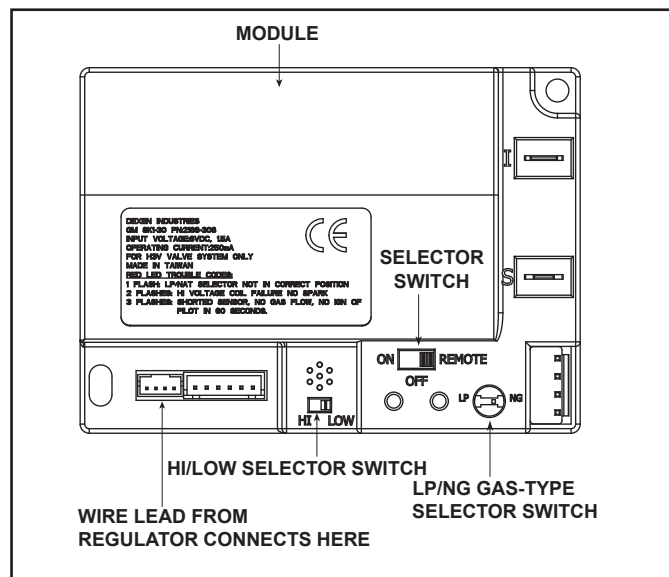

Figure 3.6 Control Module
1. The control module has an ON/OFF/REMOTE selector switch that must be set. See Figure 3.6.
2. If using a wired wall switch with the module in REMOTE mode, the flame output can be adjusted with the HI/LO selector switch on the module. See Figure 3.6. Note that the flame HI/LO selector switch will become inactive once an remote control (RC300AU) is programmed to the control module. Note that the control module will always ignite the fireplace on HI and remain so for the initial 10 seconds of operation. If the HI/LO is switched to the LO position, the flame output will automatically drop to the lowest setting after the flame has been established for 10 seconds. After this 10 second period, the flame can be adjusted from HI to LO with the switch.
- Locate the module selector switch. (See Figure 3.6).
- Wait five (5) minutes to allow possible accumulated gas to clear.
- Verify the ON/OFF/REMOTE switch is in the REMOTE position. Green LED light will blink three times and the control module will beep once 5 seconds later when ready. See Figure 3.6.